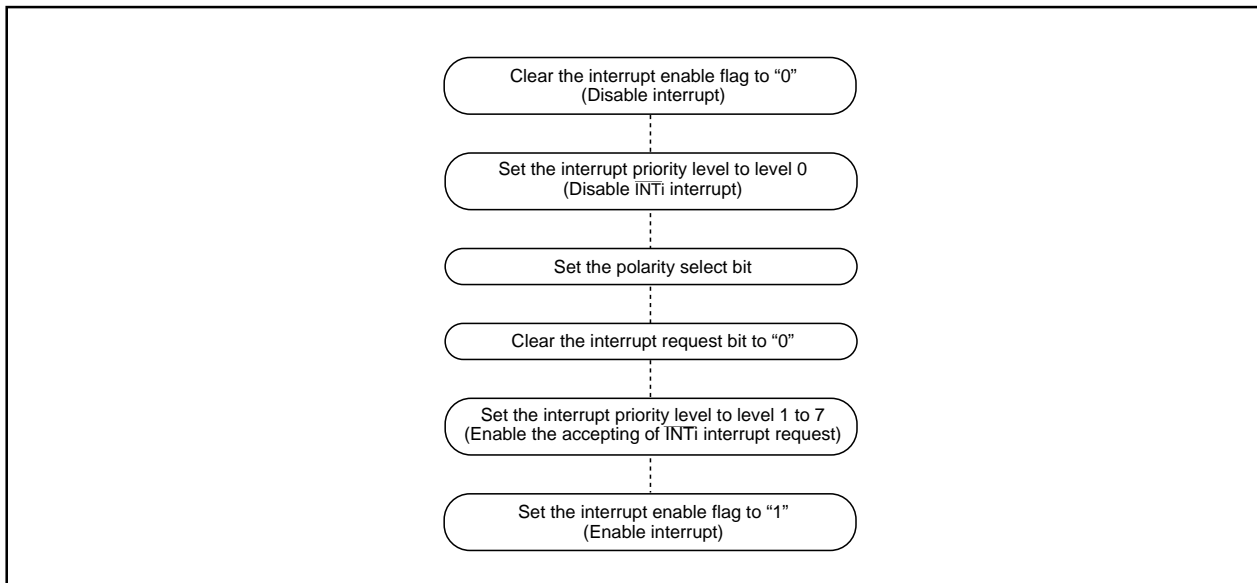

Figure 1.14.13. Switching condition of INT interrupt request
(3) The $\overline{\text{NMI}}$ interrupt
(4) External interrupt
- When the polarity of the $\overline{\text{INT}}_0$ to $\overline{\text{INT}}_5$ pins is changed, the interrupt request bit is sometimes set to "1". After changing the polarity, set the interrupt request bit to "0". Figure 1.14.13 shows the procedure for changing the $\overline{\text{INT}}$ interrupt generate factor.